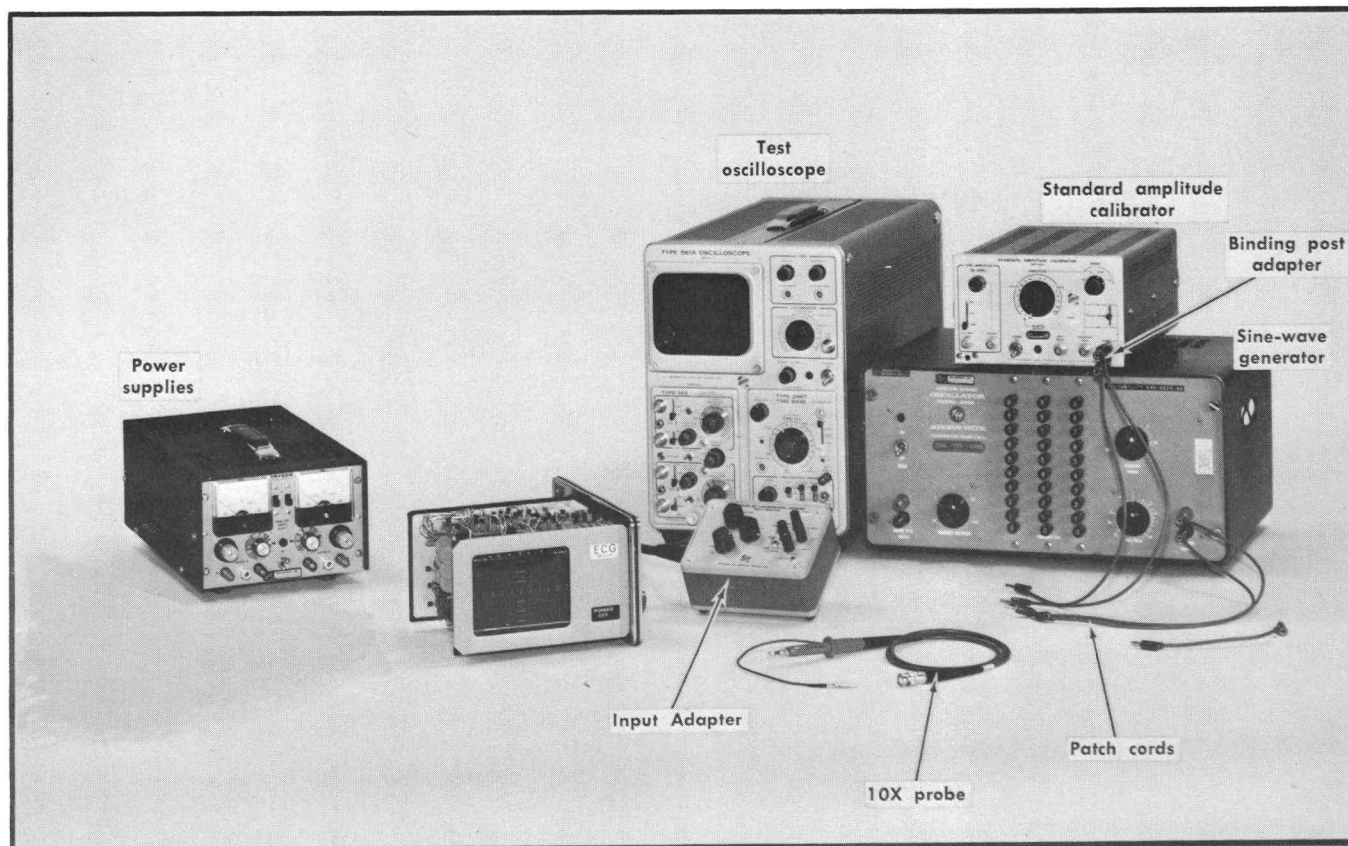

Fig. 6-7. Equipment required for steps 5 through 20.
- Test equipment setup is shown in Fig. 6-7.